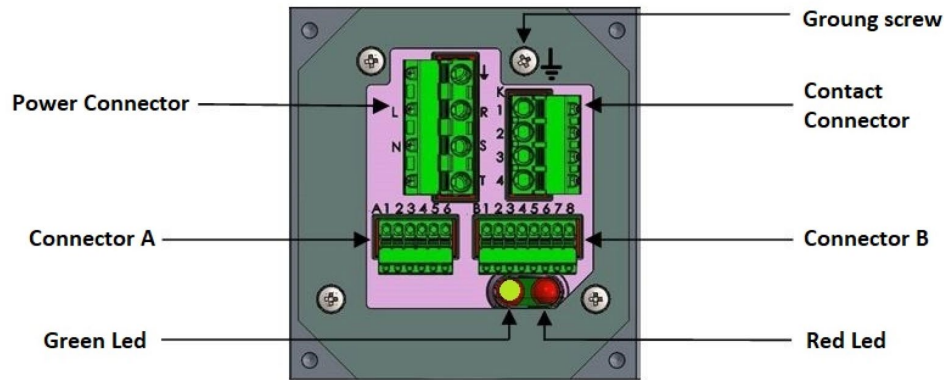

fig.23
- check that the protection devices (fuses, magnetothermal switches) are correctly sized, and that the phases are connected in the correct order: check that the fan rotates clockwise; look at the exhaust side of the fan and check rotation of propeller (see fig. 23).